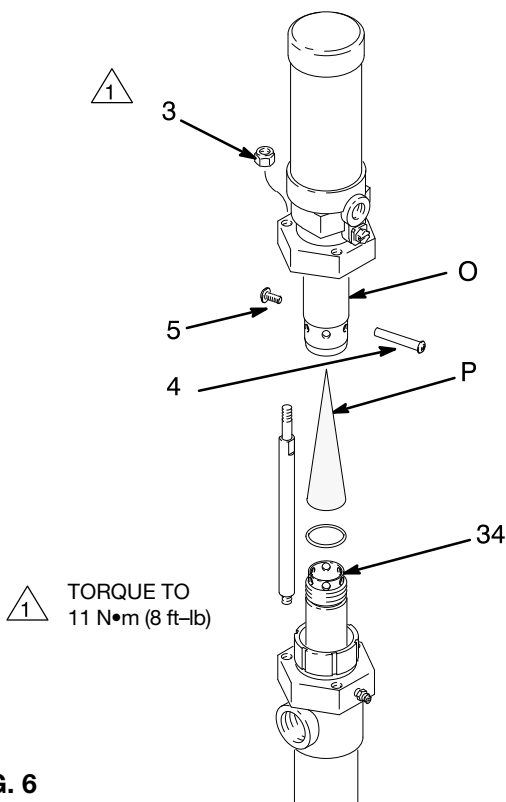

FIG. 6
NOTE: Removing the muffler (P, Fig 6) will increase both the pump flow rate and the exhaust noise and will reduce icing.
Flush the pump, disconnect the air supply and relieve all pressures in the system. Remove the pump from its mounting. Unscrew the tie rod locknuts (3), remove the screw (5) and barrel (4) set and lift the air motor. Unscrew the rod (34). See Fig 6.
Use lithium base grease on the threads of the rod (34). Insert the muffler (P) as shown. Hand tighten the rod (34) into the air motor connecting rod. Install the screw and barrel set (4 and 5). Lubricate the tie rod threads. To ensure alignment, thread the tie rod locknuts (3) loosely onto the tie rods, then torque evenly to 11 N•m (8 ft-lb). See Fig 6.